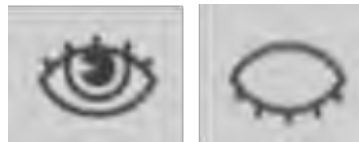

Figure 38: Visible segments and hidden segments clickable icon
- Select whether to **view/hide segments** on the scan by clicking on or off the **eye icon** (see Figure 38). You can view/hide all segment/ROI masks using the **Show Segments** button on the ROI panel.